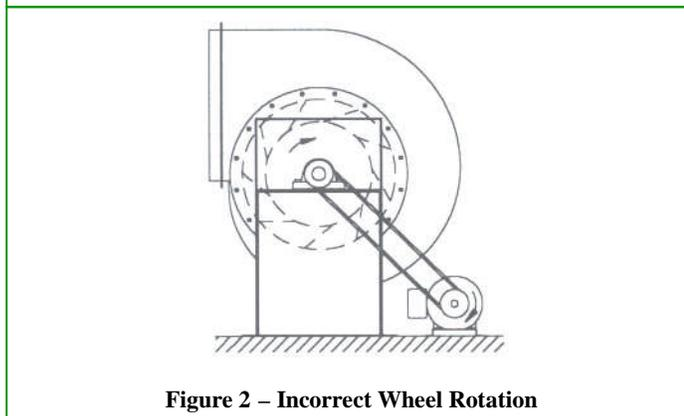

Figure 2 - Incorrect Wheel Rotation
**Check fan rotation.** See Figure 2. Centrifugal fans will move some air even when running backwards. While some types would use so much horsepower they would trip circuit breakers, other designs could run for years without being detected.